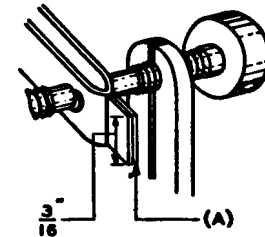

Fig. 102 - Flexible Contact Spring Alignment
- (a) **Flexible Contact Springs Riveted to Armature** - Fig. 102 (A): Springs tips shall be approximately flat, shall bear upon each other at the top and bottom edges and shall make at least a line contact for at least 25% of the  $3/16''$  width.